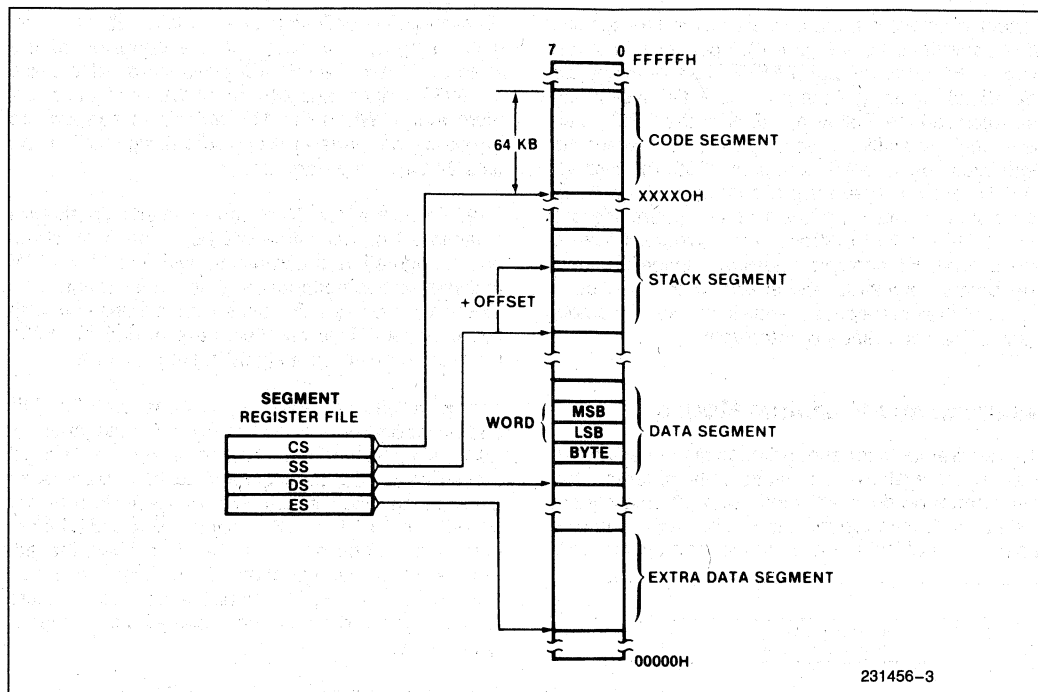

Figure 3. Memory Organization
The processor provides a 20-bit address to memory which locates the byte being referenced. The memory is organized as a linear array of up to 1 million bytes, addressed as 00000(H) to FFFFF(H). The memory is logically divided into code, data, extra data, and stack segments of up to 64K bytes each, with each segment falling on 16-byte boundaries (See Figure 3).